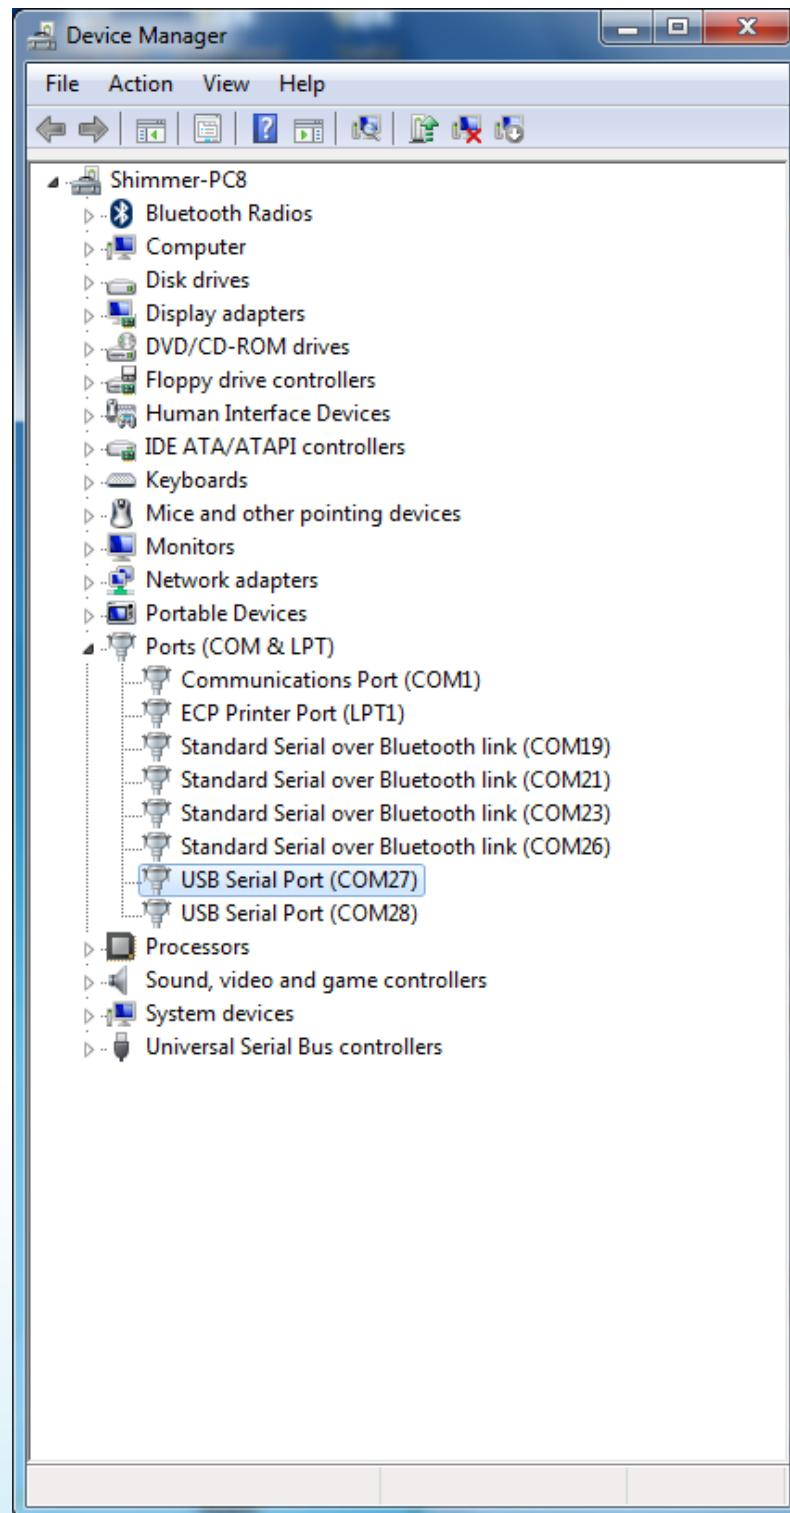

Figure 3-7 Device Manager showing Dock USB Serial Ports
- IV. Next, under the *Ports (COM & LPT)* entry in the *Device Manager*, you should see two new *USB Serial Port* entries, each with an associated COM port number, as shown in Figure 3-7. The *USB Serial Port* with the lowest number is the *Programming Port*.